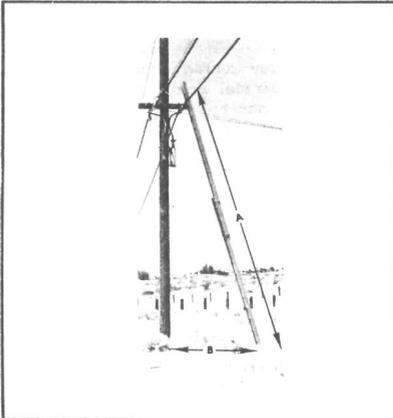

FIGURE 18.
**11.01** Use care in positioning ladders before climbing them. Place the foot of the ladder on the ground or other firm support so that distance A (as shown in Figures 18 and 19) is approximately 1/4 of distance B. If distance A is greater than 1/4 of distance B, there is danger of imposing excessive